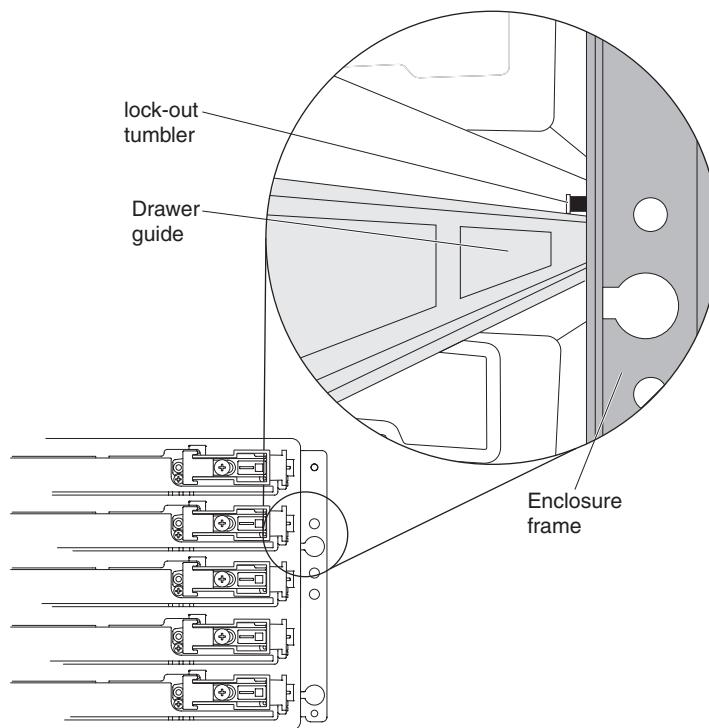

Figure 60. Lock-out tumbler located above the drawer guide
- a. At the front of the storage expansion enclosure, install the new drive drawer into the slot, making sure the lock-out tumbler is located on the top of the drawer guide. The lock-out tumbler is a small alignment piece that is attached to the frame. Figure 60 shows the location of the lock-out tumbler as shown from the front of the enclosure.